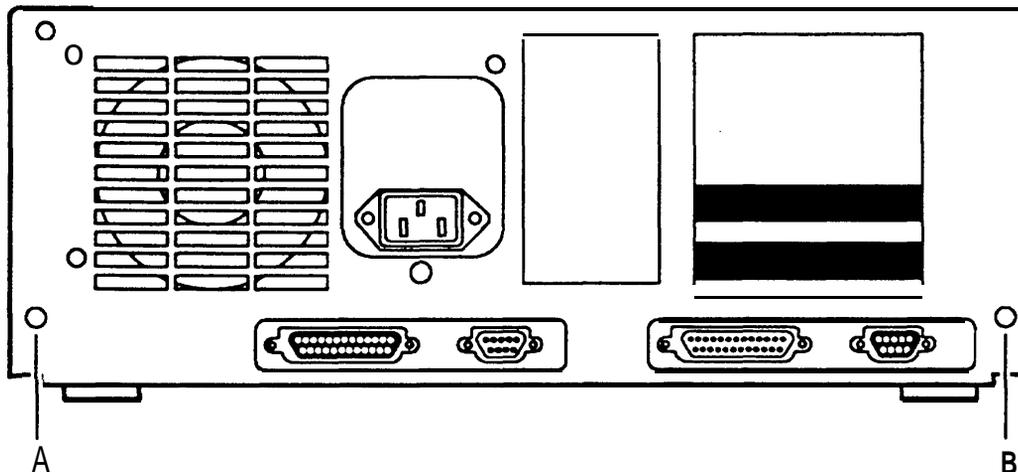

Figure 2-2 Master Controller II+ Main Cover-Securing Screws
3. Loosen the two main cover-securing screws (**A** and **B**) on the back panel as shown in Figure 2-2.